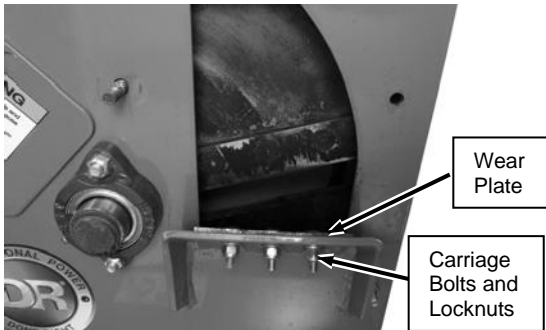

Figure 35
4. To adjust the Wear Plate Gap, loosen the three Nuts on the Carriage Bolts with a 7/16" wrench just enough so the Wear Plate will move but still have a slight resistance. Now you can slide the Wear Plate up or down (in or out) to achieve the correct gap setting (**Figure 35 and 36**).